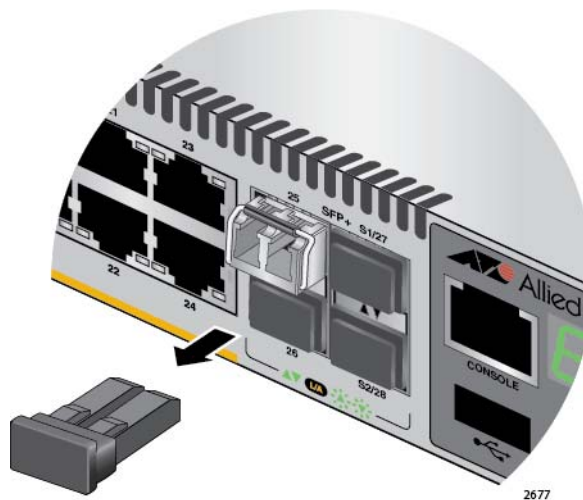

Figure 49. Removing the Dust Cover from an SFP or SFP+ Transceiver
5. Remove the dust cover from the transceiver, as shown in Figure 49.